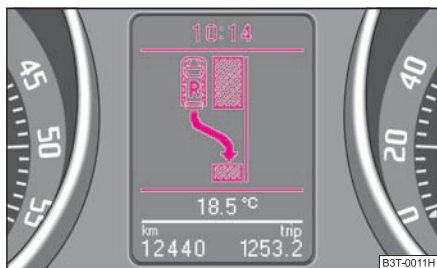

Fig. 130 Information display: Parking place recognized with the information to engage the reverse gear
- Drive on further until the display ⇒ fig. 130 appears.